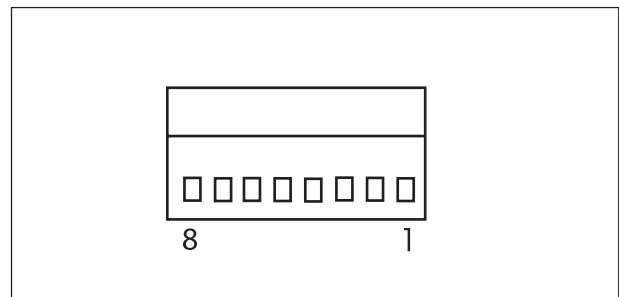

Figure 3-1. Membrane Switch Connector.
3. Refer to Table 3-1. Using an Ohmmeter, measure the resistance between the pins shown in the table. The readings should be less than 70 Ohms for each button. If continuity is not present or the resistance is higher than 100 Ohms, the Membrane Switch is defective. Replace the Membrane Switch. Figure 3-1 illustrates the cable connector and pin locations.